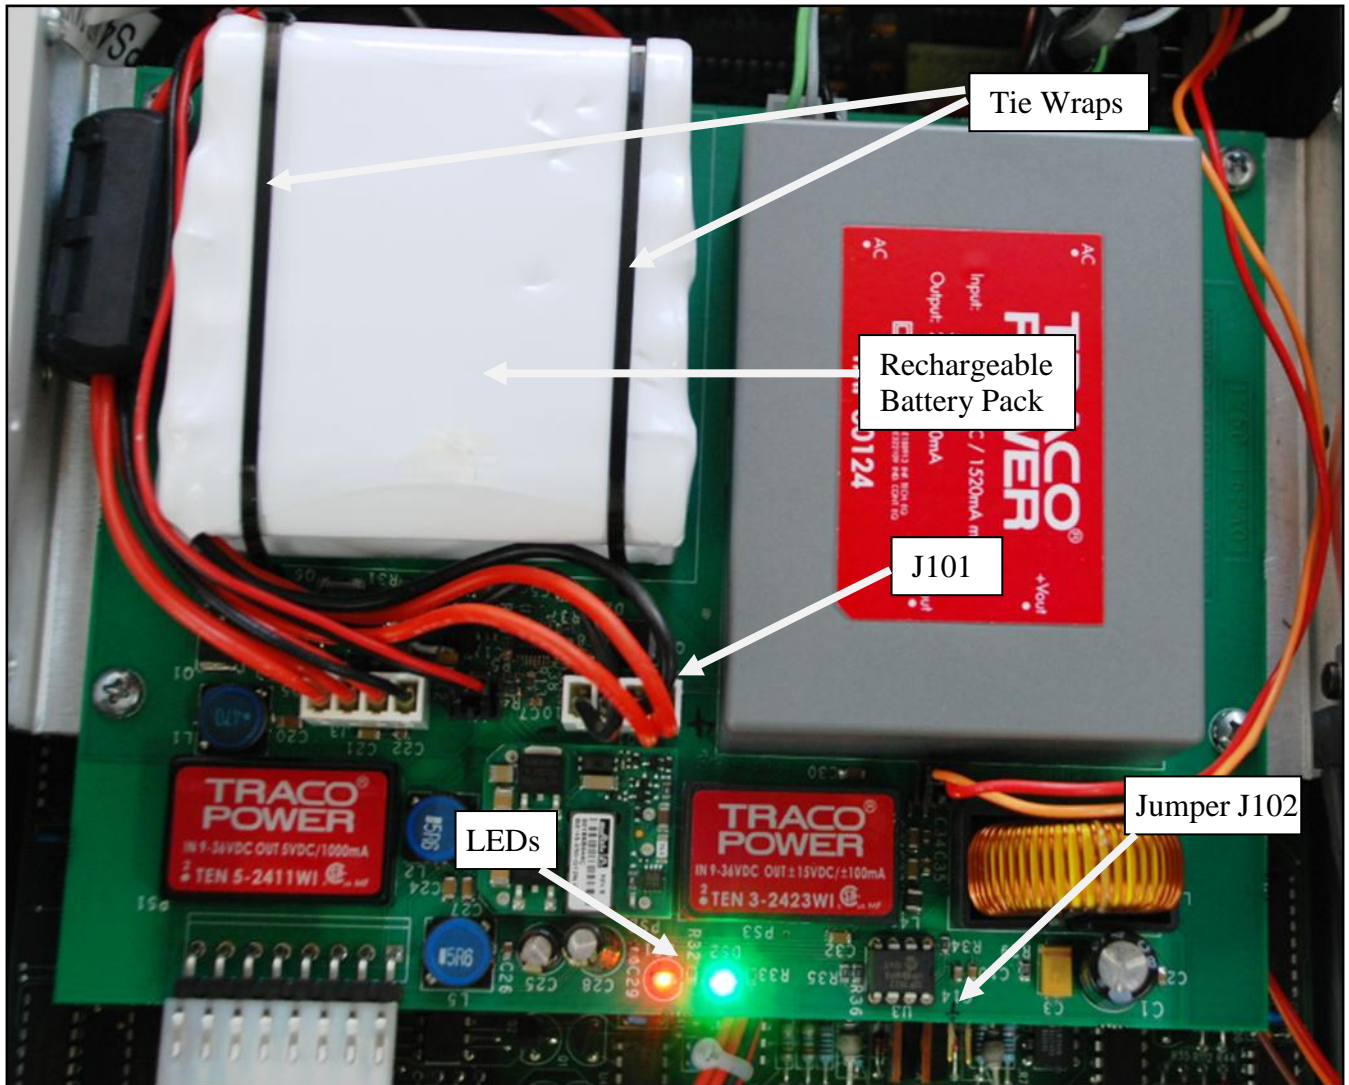

Figure 1: Rechargeable Battery Assembly
4. Install jumper J102. This ensures that the battery charge control circuit is in the shutdown state to facilitate the replacement procedure. Refer to figure 1 for the jumper position.